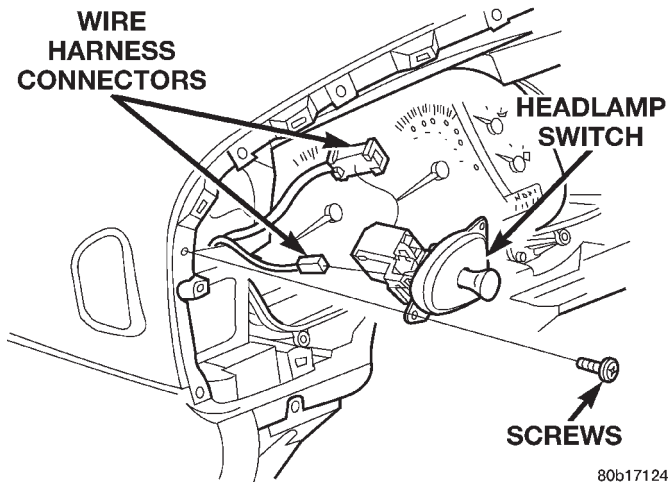

Fig. 10 Headlamp Switch and Bezel Remove/Install
- (1) Disconnect and isolate the battery negative cable.
- (2) Remove the cluster bezel from the instrument panel. See Cluster Bezel in the Removal and Installation section of this group for the procedures.
- (3) Remove the three screws that secure the headlamp switch bezel to the instrument panel (Fig. 10).